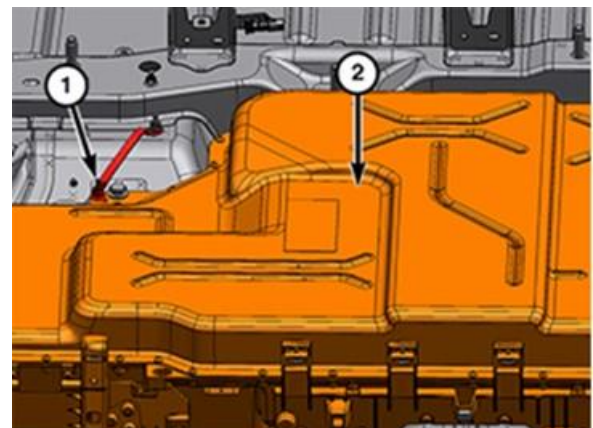

Figure 34 – HV Battery Fastener and Ground Cable
- 37. Remove the fastener (1) and the chassis ground cable from the HV battery (2) (Figure 34).
31. Connect the three HV wire harness connectors (1) (Figure 34).